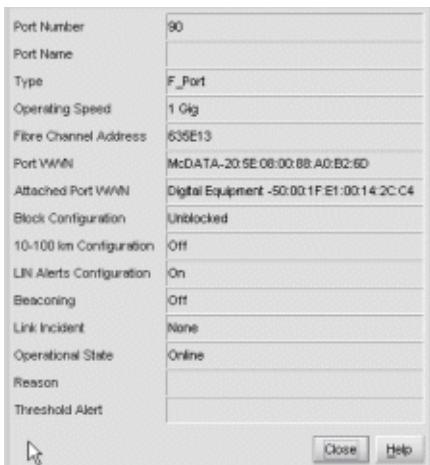

Figure 60 Port Properties dialog box
7. Double-click the graphical port connector used for the fabric ISL. The Port Properties dialog box appears (Figure 60).